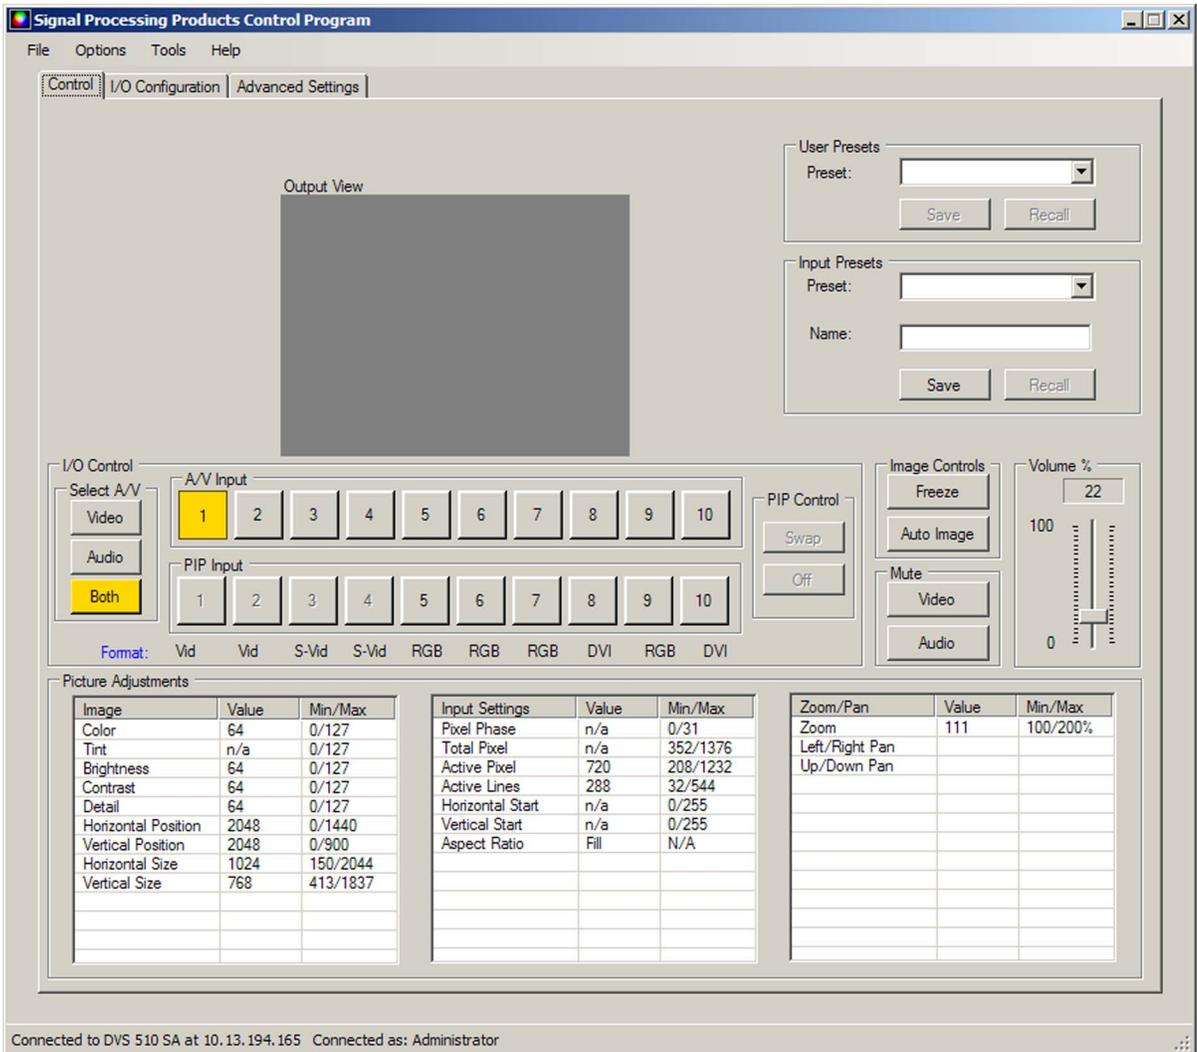

Figure 35. Signal Processing Products Control Program Main Window
3. Click **Connect**. The Signal Processing Products Control Program main window opens (see figure 35 on the next page), and the software is ready for operation.